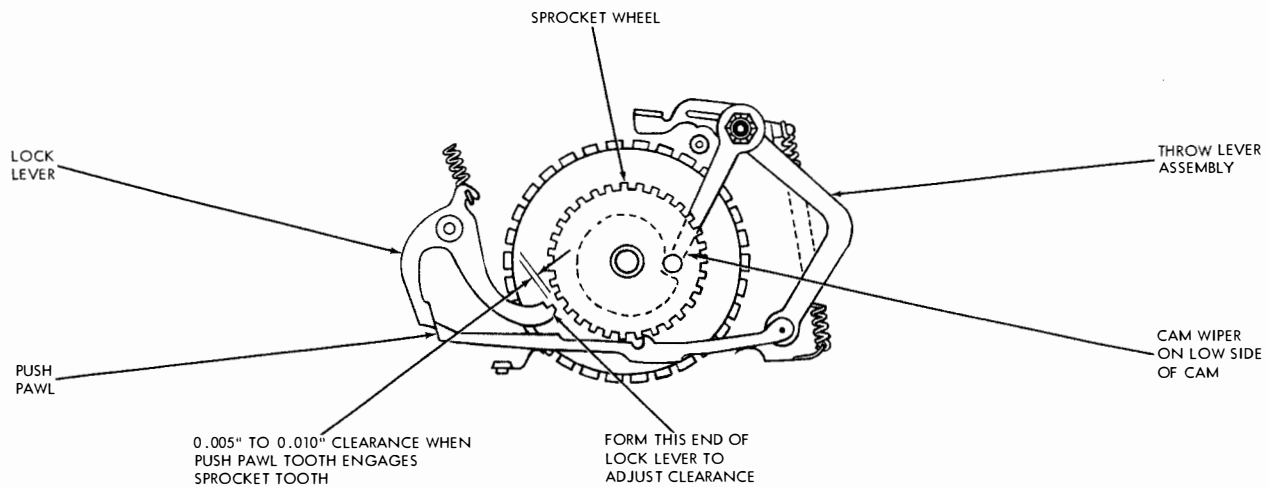

Figure 7-17. Lock Lever
(4) **LOCK LEVER.** (See figures 7-17 and 7-18.)—The lock lever should release the typewheel before the push pawl catches the sprocket tooth. There should be a clearance of 0.005 to 0.010 inch between the lock lever and the typewheel sprocket when the push pawl feed tooth engages a sprocket tooth. To adjust, form the pawl end of the lock lever. Each push pawl should raise its lock levers as the typewheel is advanced. The maximum clearance between the lock lever and typewheel should not exceed 0.060 inch. To adjust, if clearance is excessive, file the point of the lock lever.